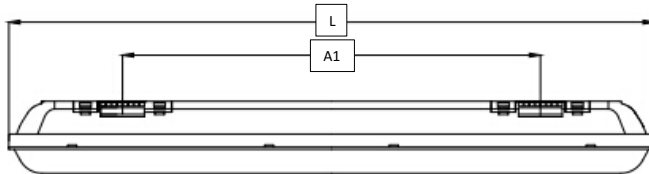

Fig 1
- Referring to Fig 1, mark the location of the fixing holes. Drill the fixing holes ensuring not to infringe with any joists, gas / water pipes, or electrical cables that may be hidden behind the surface